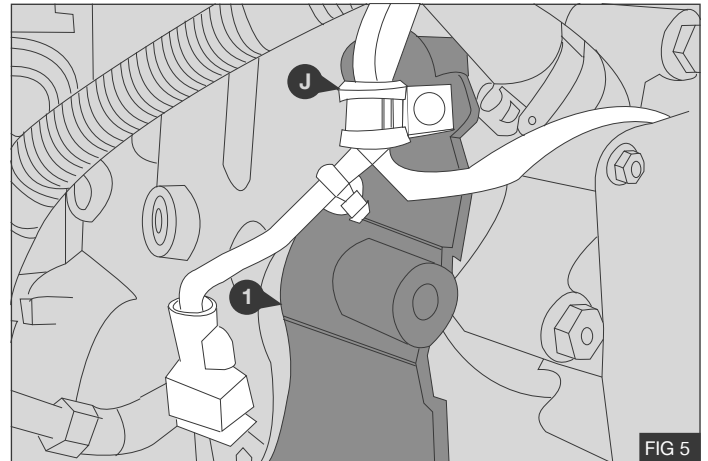

FIG 5
5. Mount the original wiring clip (J) onto the compressor mount bracket (1) if applicable - Fig 5